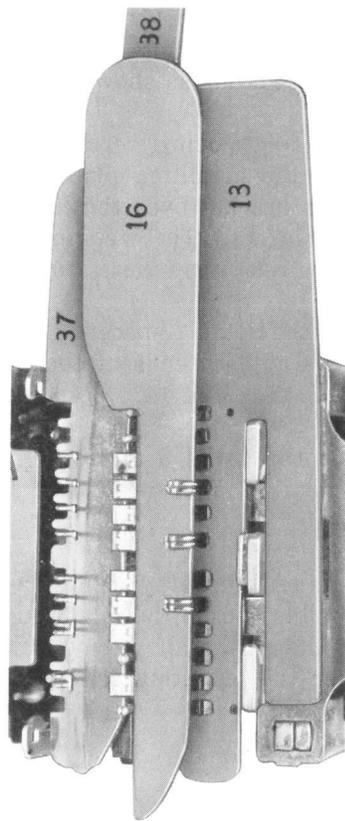

Fig. 11—Card Removed
3.17 Using the KS-6320 orange stick, hold down the armature in the unoperated position and with the KS-8511 tweezers disengage the card from the armature leg notches and remove the card (Fig. 11).